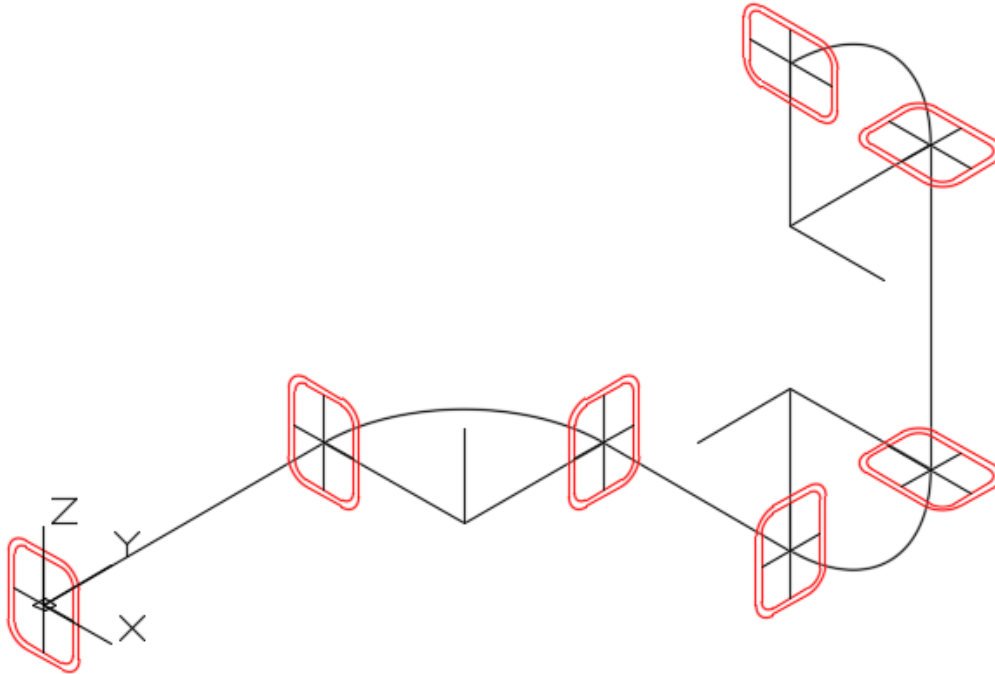

Figure Step 10
Step 10 Copy the objects onto the construction lines. Ensure that the midpoint of the object (the intersections of the construction lines) aligns to the endpoints of the lines and arcs. (Figure Step 10)